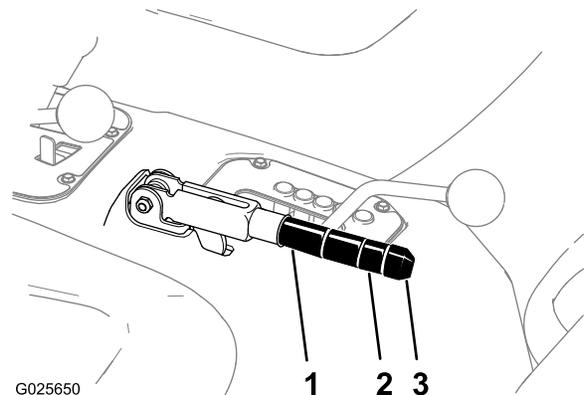

Figure 80
2. Loosen the set screw securing the knob to the parking-brake lever (Figure 80).
3. Rotate the knob (Figure 80) until a force of 20 to 22 kg (45 to 50 lb) is required to actuate the lever.
4. Tighten the set screw when finished (Figure 80).